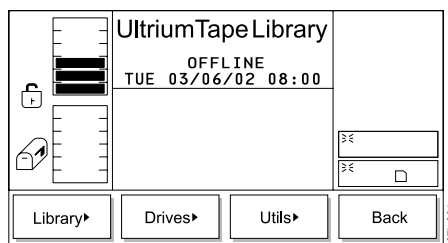

Figure 208. Setup Menu
2. Press the button below the **Setup** softkey. The Setup Menu displays (see Figure 208).